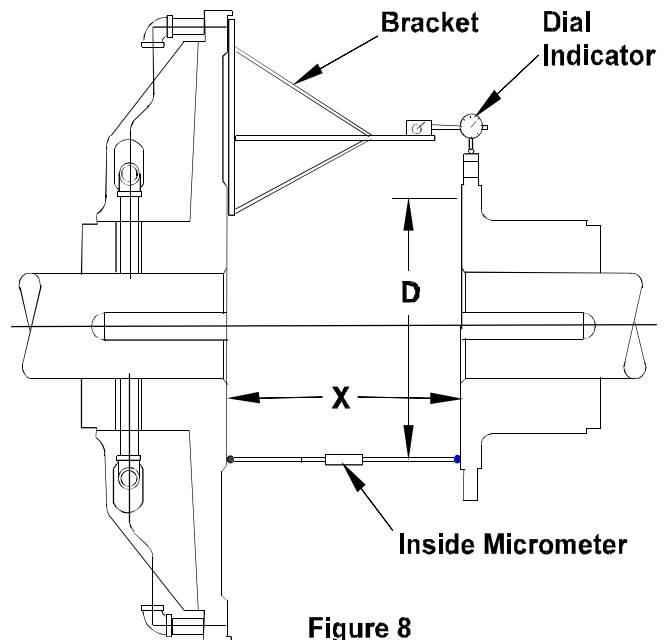

Figure 8
**Not to be exceed 0.0005 inch per inch (.0005mm/mm) diameter at which readings are taken (“D” on Fig. 8).**
- 2.4.1 Foundations must be set so distance “X”, shown in Figure 8, is established. If the clutch is mounted on a shaft having plain bearings, make sure the shaft is centered within the bearings when establishing the “X” dimension. Refer to Table 2 for appropriate “X” dimensions.
- 2.4.2. Fabricate a rigid bracket for supporting a dial indicator and attach to the spider. See Figure 8.